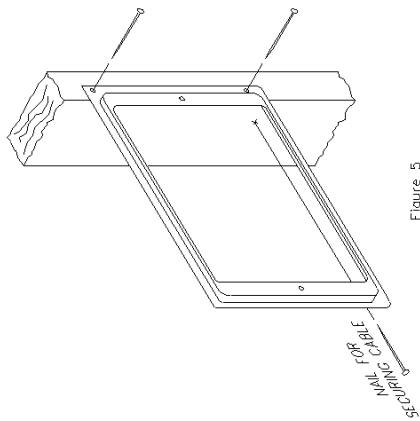
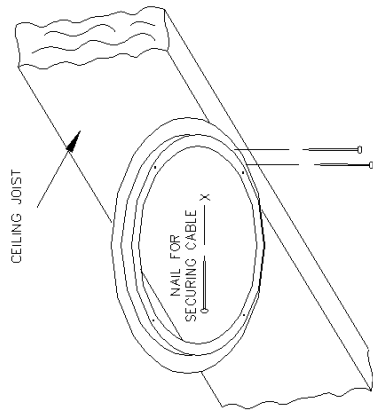

Figure 5
Figure 6
1. **Speakers with Remote Controls:** At each remote control location, nail remote control mounting ring, with the raised surface extending into the room, to a wall stud in a level position at a center height of normal light switches (Fig. 5). Drive a nail into the wall stud as shown (to be used to secure cable until speaker connection is to be made). With the raised surface extending into the room, nail speaker mounting ring to the ceiling joist or wall stud (Fig. 6). Drive a nail into the joist or stud as shown (to be used to secure cable until speaker connection is to be made). Run a single cable (MS4XSC or MS4X) from the master unit location to each remote control location. Then run a single cable (MS2X) from the remote control location to the speaker location (Fig. 3). Secure all cables as previously described.
2. **Speakers with Remote Volume Controls:** At each remote volume control location, attach a single gang box to a wall stud at a center height of normal light switches. Make sure the Single Gang Box extends past the wall stud and into the room so it will be flush with the sheet rock when it is applied (Fig. 7). Next, nail speaker mounting ring to the ceiling joist or wall stud with the raised surface extending into the room (Fig. 6). Drive a nail into the joist or stud as shown (to be used to secure cable until speaker connection is to be made). Run a single cable (MS4XSC or MS4X) from the master unit location to each remote volume control location (the black and white wires are not used). Then run a single cable (MS2X) from the remote volume control location to the speaker location. Tie a loose knot in the cables pulled through the single gang box so they cannot be pulled into the wall. Secure other ends of cables as previously described.